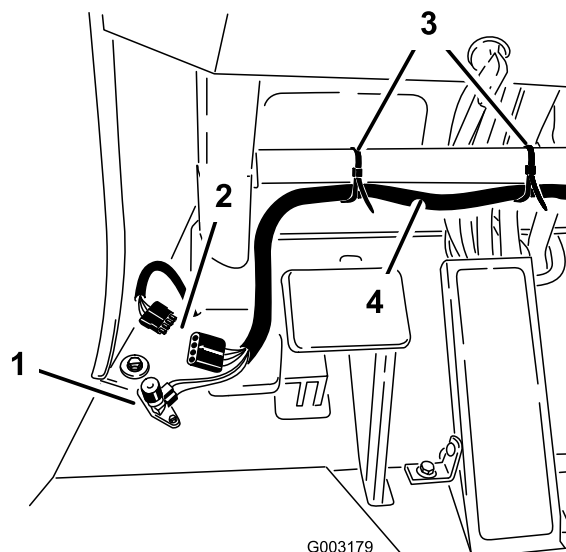

Figure 3
5. Connect the old floor switch connector to the matching connector on the new wiring harness (Figure 3).
6. Use wire ties to secure the relays and harness to the frame under the dash as shown in (Figure 3).